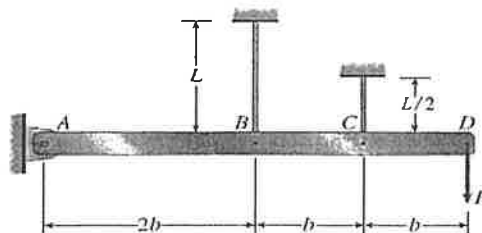

Figure 2
2. The structure shown in the Figure 2 consists of a horizontal rigid bar $ABCD$ supported by two steel wires, one of length L at point B and the other of length $L/2$ at point C . Both wires have same cross-sectional area A and are made of elastic-perfect-plastic (EPP) material with yield stress σ_y and modulus of elasticity modulus E . A vertical load P acts at end D of the bar. Determine the ultimate load P_u and the corresponding ultimate displacement δ_u at point D . (20%)